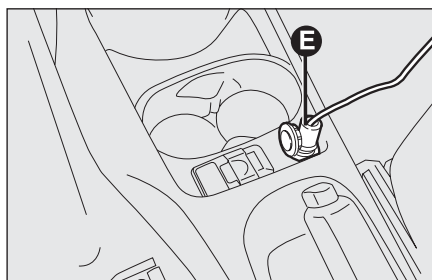

fig. 15
- make sure that switch **D-fig. 14** of the compressor is in position **0** (off), start the engine, plug into the socket **E-fig. 15** and operate the compressor turning switch **D-fig. 14** to position **I** (on). Inflate the tyre to the pressure specified in the "Inflation pressure" paragraph, "Technical Specifications" chapter.